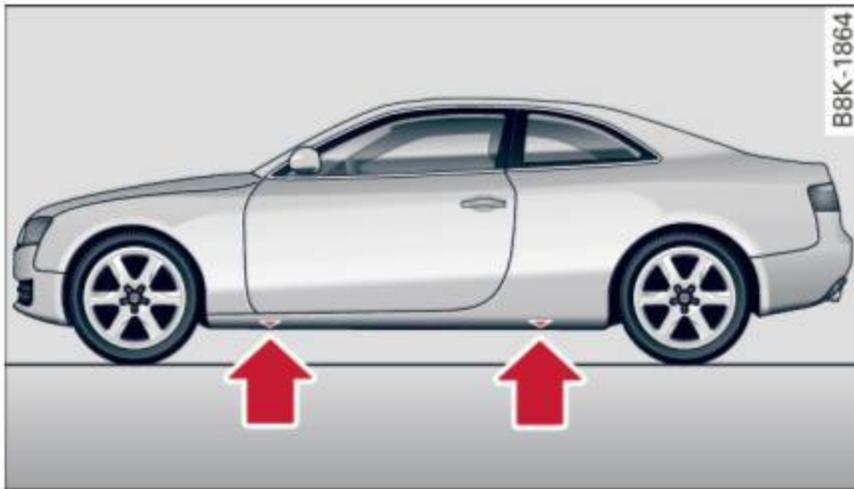

Fig. 178 Sill panels: markings
The location of the jack point is indicated by an indentation on the underside of the vehicle ⇒ *fig. 178*.
- ▶ Find the **marking** (imprint) on the sill that is nearest the wheel that will be changed ⇒ *fig. 178*. Behind the marking, there is a **lifting point** on the sill for the vehicle jack.
Position the vehicle jack **only** under the designated lifting points on the sill ⇒ *fig. 178*. There is exactly *one* location for each wheel. The jack must not be positioned at any other location ⇒ ⚠ ⇒ !.